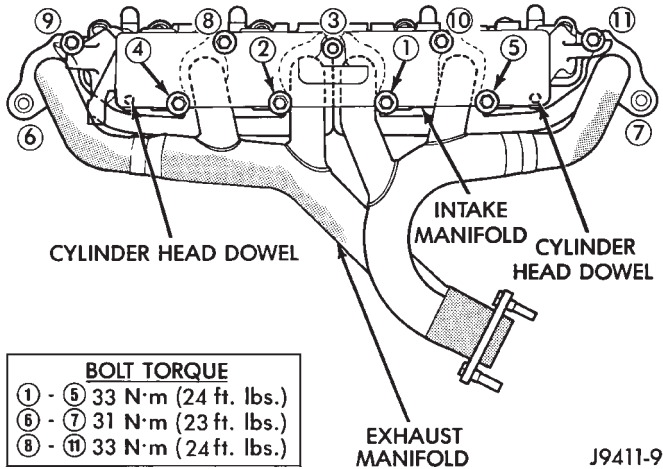

Fig. 30 Intake/Engine Exhaust Manifold Installation (4.0L Engine)
(1) If the manifold is being replaced, ensure all the sensors, fittings, etc. are transferred to the replacement manifold.
(2) Install a new exhaust/intake manifold gasket over the alignment dowels on the cylinder head.
(3) Position the engine exhaust manifold to the cylinder head. Install fastener No.3 and finger tighten at this time (Fig. 30).
(4) Install intake manifold on the cylinder head dowels.
(5) Install washers and fasteners Nos.1, 2, 4, 5, 8, 9, 10 and 11 (Fig. 30).
(6) Install washers and fasteners Nos.6 and 7 (Fig. 30).
(7) Tighten the fasteners in sequence and to the specified torque (Fig. 30).
(8) Install the power steering pump and bracket to the intake manifold and water pump. Tighten the belt to specification (Refer to Group 7, Cooling System for the proper procedures).
(9) Connect fuel supply tube to the fuel rail inlet. Push tube until a “click” is heard. **Before connect-**